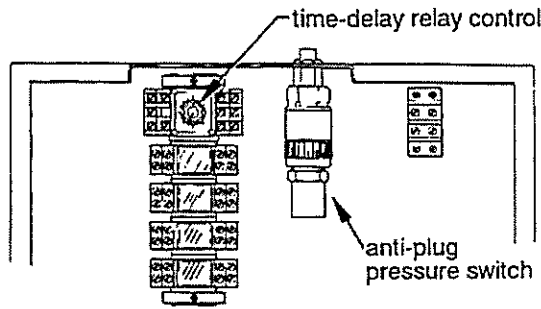

Fig. 52 Preset time-delay control to "2"
12. **PRESET TIME-DELAY RELAY TO 2"** Preset the control box time-delay relay control (fig. 52) to "2" (approximately 3.5 seconds delay). (The "2" setting has a good chance of being the final installation setting.)